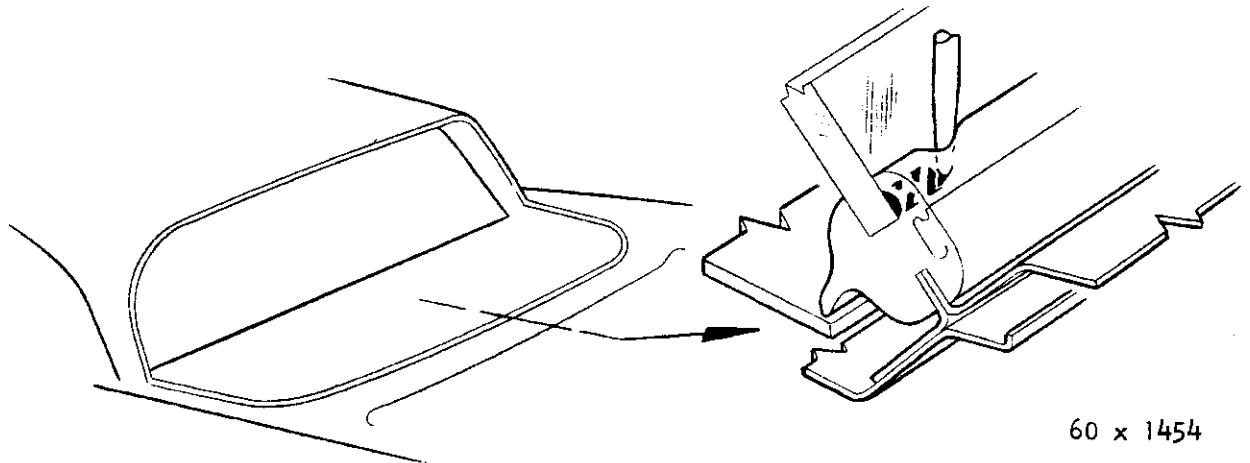

Fig. 23—Rear Window Weatherstrip Sealing (Lower)
cator and force a continuous  $\frac{1}{8}$ " diameter bead of windshield rubber cement deeply around the entire edge of glass, as shown in Figure 23.
**Windshield and Rear Window Weatherstrip (Figs. 23 and 24)—Rubber to Body and Moulding Attaching Clips**